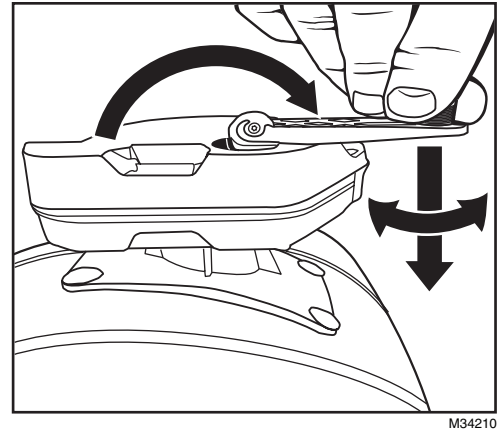

Fig. 4. Adjustment crank.
- Flip the adjustment crank out (see Fig. 4)